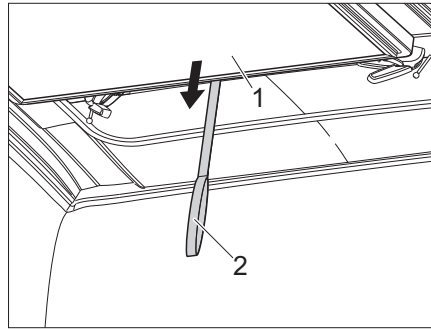

Fig. 20 Pulling the sleeping area downwards (Campstar)
- Pull the sleeping area (Fig. 20,1) downwards with the belt (Fig. 20,2).
- ▷ Before closing the pop-up roof pull the sleeping area (Fig. 20,1) down. **Do not** pull the sleeping area and the pop-up roof down at the same time.